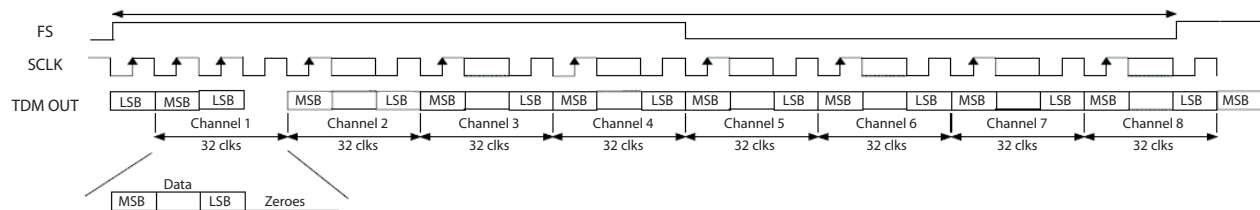

Figure 11. TDM Format
In TDM Mode, all eight channels of audio data are serially clocked out during a single Frame Sync (FS) cycle, as shown in Figure 11. The rising edge of FS signifies the start of a new TDM frame cycle. Each channel slot occupies 32 SCLK cycles, with the data left justified and with MSB first. TDM output data should be latched on the rising edge of SCLK within time specified under “Serial Audio Interface - TDM Timing” section on page 10. The TDM data output port resides on the SDOUT1 pin. The TDM output pin is complimentary TDM data. All SDOUT pins will remain active during TDM Mode. Refer to Section 4.11 “Optimizing Performance in TDM Mode” on page 22 for critical system design information.